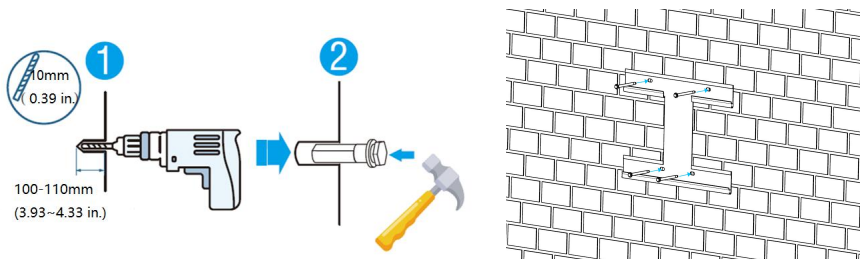

Figure 5-1
b) Choose the recommend drill head (as shown in Figure 5-1) to drill 4 holes on the wall, 100mm-110mm deep.
c) Use a proper hammer to fix the hanging plate to the wall, and then mount the expansion bolt (M6*100) into the holes, as shown in Figure 5-1.